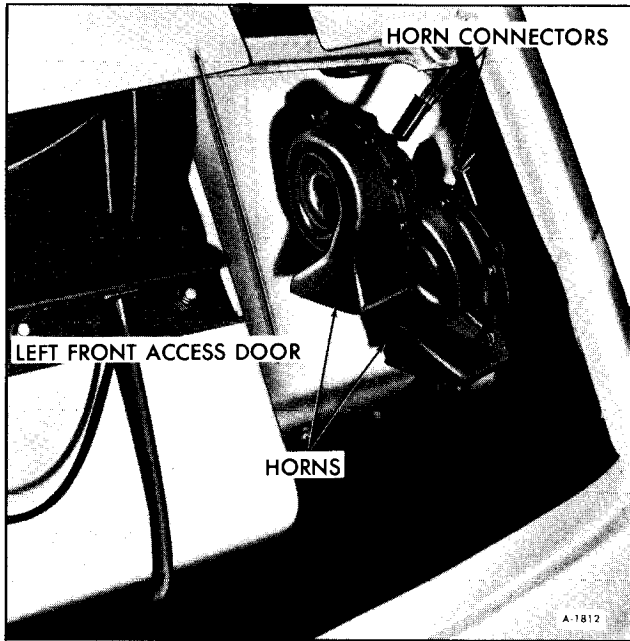

Figure 34-Horn Installation
Two air-tone "S" type vibrating electric horns (figure 34) are mounted behind the left front access door. The electric air-tone "S" type horn is carefully adjusted and inspected during manufacture and should operate indefinitely without attention. The horn assembly should not be adjusted or repaired.
2. Remove the horn mounting bolts and remove horns (See figure 34).